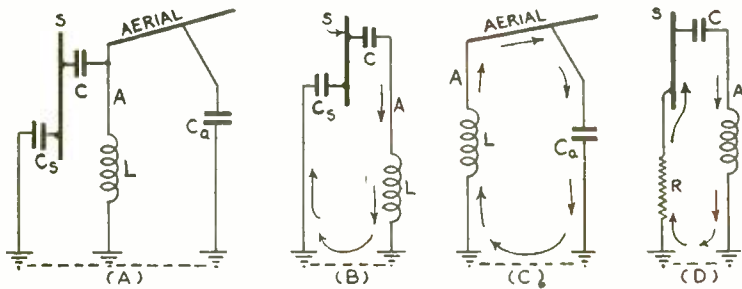

FIG. 5
It is evident that the 20 or more feet of metal shielding (depending upon the length of the lead-in) surrounding the central lead-in wire may act as an independent receiving aerial which will pick up both signals and electrical disturbances (mostly the latter). Furthermore, this 20 or more feet of metal shielding surrounding the central lead-in wire and separated therefrom by rubber insulation (which is a good dielectric having a dielectric constant of about 3) forms a "condenser" of appreciable capacity, C , distributed along the entire length as shown at (A) of Fig. 4. This shielding also has a capacity, C_s , to ground, and the aerial wire has a capacity, C_a , to ground. These are all shown in the illustration. The equivalent electrical circuit which results is shown at (A) of Fig. 5 where A represents the lead-in, S represents the shield and L is the primary of the antenna coil in the receiver. Keeping in mind the fact that signal voltage is induced in the aerial wire and both noise and signal voltage is induced in S , it is evident that we have here two possible oscillating circuits, each one having its own natural resonant frequency determined by its inductance and capacity. One of these circuits consists of the aerial (in which the *signal* voltage is induced), C_a , the "ground," and L , as shown at (C) of Fig. 5. Notice that the *signal* current flows through the receiver coil when it oscillates in this circuit. The other oscillating circuit consists of S (in which the noise voltage is induced), C_s , A , L , the "ground," and C_a , as shown at (B). Notice that since receiver coil L is also in the path of the noise current which will flow through this latter circuit, the effectiveness of the shield in eliminating noise pickup is greatly reduced. These interfering oscillating currents can be suppressed by grounding the shield at both ends (and at intermediate points along it if possible) so that its entire length will be maintained at as nearly ground potential as possible. Since it is usually very inconvenient to make such a "ground" connection to the top end of the shield in actual installations, most manufacturers of shielded antenna kits resort to a different method of accomplishing the same result. The shield is grounded at the receiver end only, and a high resistance is connected in series with this ground lead (as shown at (B) of Fig. 4). Connecting this resistance in this way has the effect of introducing it directly in series with the oscillating circuit formed by the shield, antenna coil and ground, as shown at (D) of
Fig. 5, and it therefore suppresses the noise currents in this circuit. In some cases, a suitable r-f choke is used instead of a resistor for this purpose (see Fig. 6). Unfortunately, this resistance also reduces the effectiveness of this ground connection to the shield by bypassing the inductive interference currents to ground, but in actual commercial shielded antenna kits some sort of compromise is at-